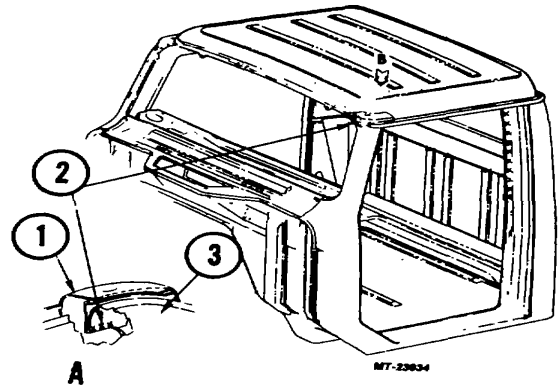

Fig. 45. Side Panel to Roof Outer and Inner Panel Spot Welds (Outer Roof Panel not Shown)
9. Drill out three spot welds and separate side panel from roof outer and inner panels (Fig. 45).